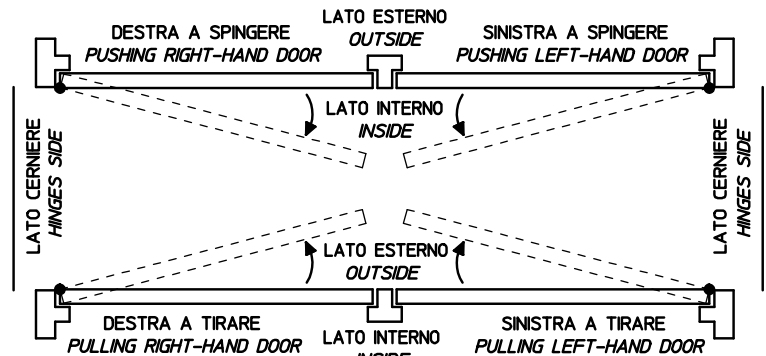

FIG. 1
1. IDENTIFICARE IL SENSO DI APERTURA DELLA PORTA UTILIZZANDO LO SCHEMA DI FIG.1 E, SERVENDOSI DELLA DIMA DI MONTAGGIO, MARCARRE LE POSIZIONI DELLE VITI DI FISSAGGIO SULLA PORTA E SULLO STIPITE E PREPARARE I FORI.
1. CHECK THE DOOR OPENING DIRECTION USING THE FIG.1 SCHEME AND USE THE INSTALLATION TEMPLATE TO MARK THE POSITION FOR THE FIXING SCREWS ON THE DOOR AND ON THE FRAME AND PREPARE THE HOLES.